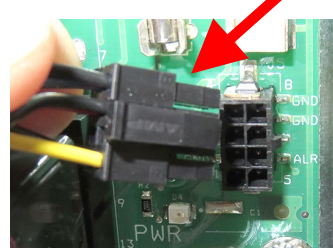

Figure 19
22. Connect the 8-pin micro-mate harness connector to the interface board (see Figure 19). **NOTE: Attaching to old interface boards requires clipping the wires and terminating with 1/4" push on terminals (not supplied).**